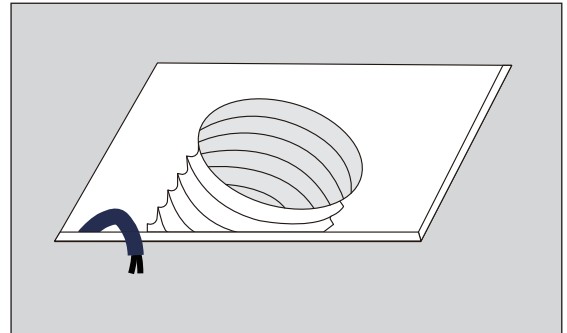

Fig 19
2. Remove the old fan and leave ductwork and wiring in place. (Fig 19)